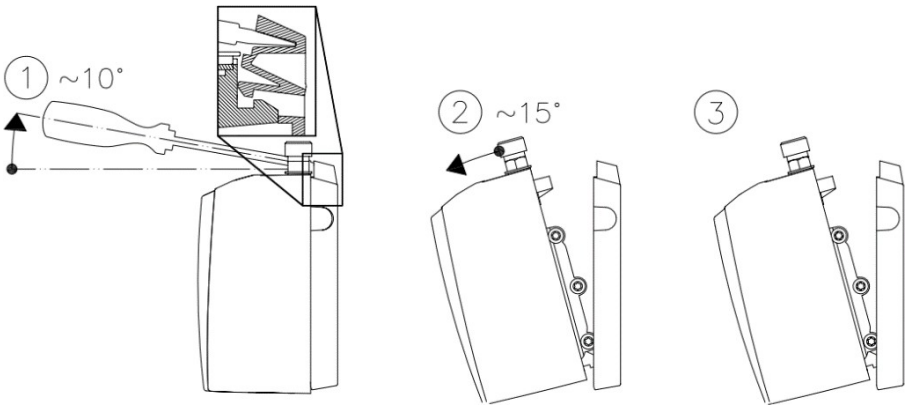

Figure 1. Disconnection of the mounting panel from the IEWH
Disengage the mounting panel from the electric water heater body following the instructions from Figure 1. To do it, put until tight a flat blade screwdriver into the lock located between the cold and hot water branch pipes and pull up a little (1). Tilt the appliance forward to not more than 15° (2) and disconnect the appliance by pulling it upwards (3).